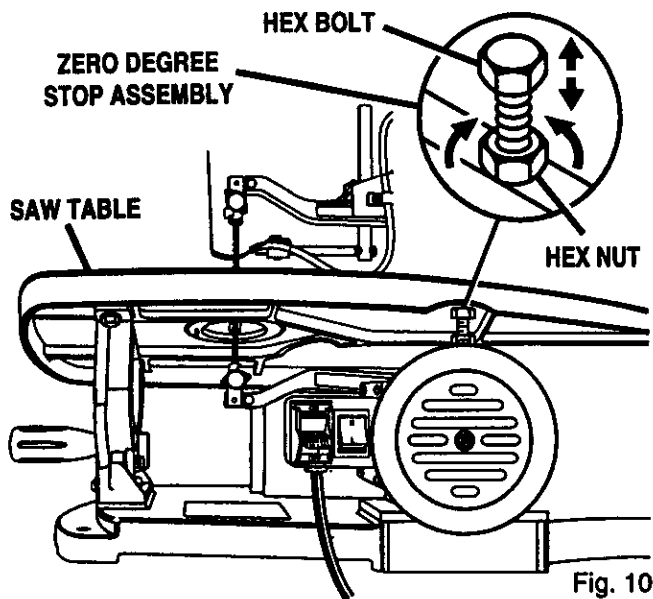

Fig. 10
- To access the zero degree stop, loosen the table lock knob, and tilt the table with the right side all the way up. On top of the motor is a hex nut and hex bolt. See Figure 10. Loosen the hex nut and rotate the hex bolt to raise or lower the bolt as needed to adjust the zero degree stop. Be sure to check to see that the table is square to the blade.